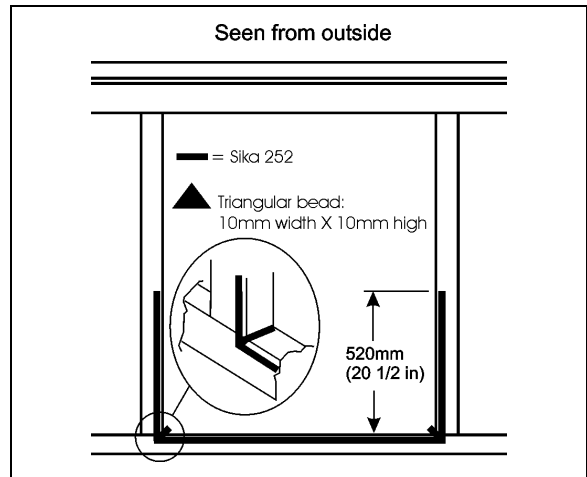

FIGURE 71: AWNING WINDOW – SIKA 252 APPLICATION
- Apply Sika 252 as per FIGURE 71 (triangular bead: 10mm width X 10mm high) [10mm≈3/8"];